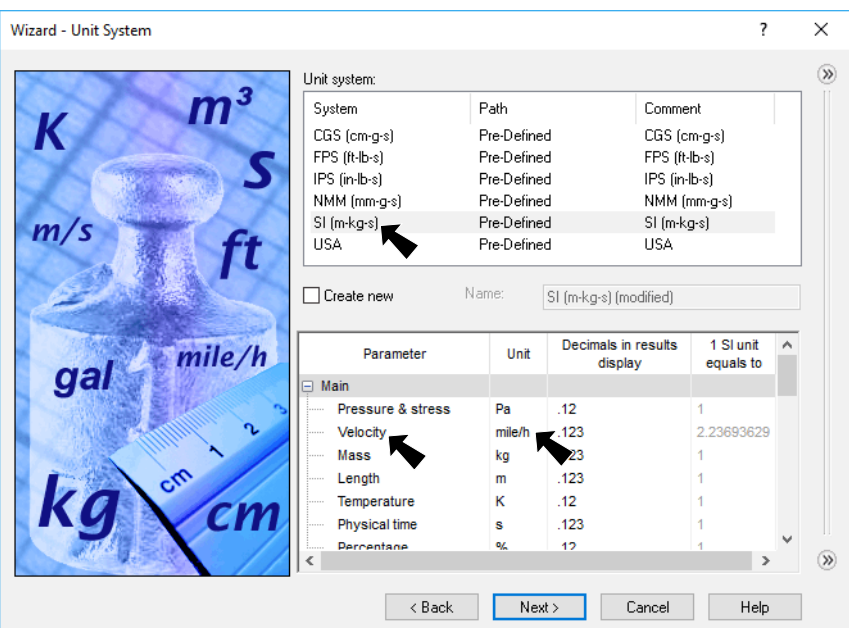

Fig. 3
Step 5. **Unit System:** Select **SI (m-kg-s)** for Unit system, Fig. 3.
Step 6. Under Parameter, set **Velocity units to Mile/hour**, Fig. 3.